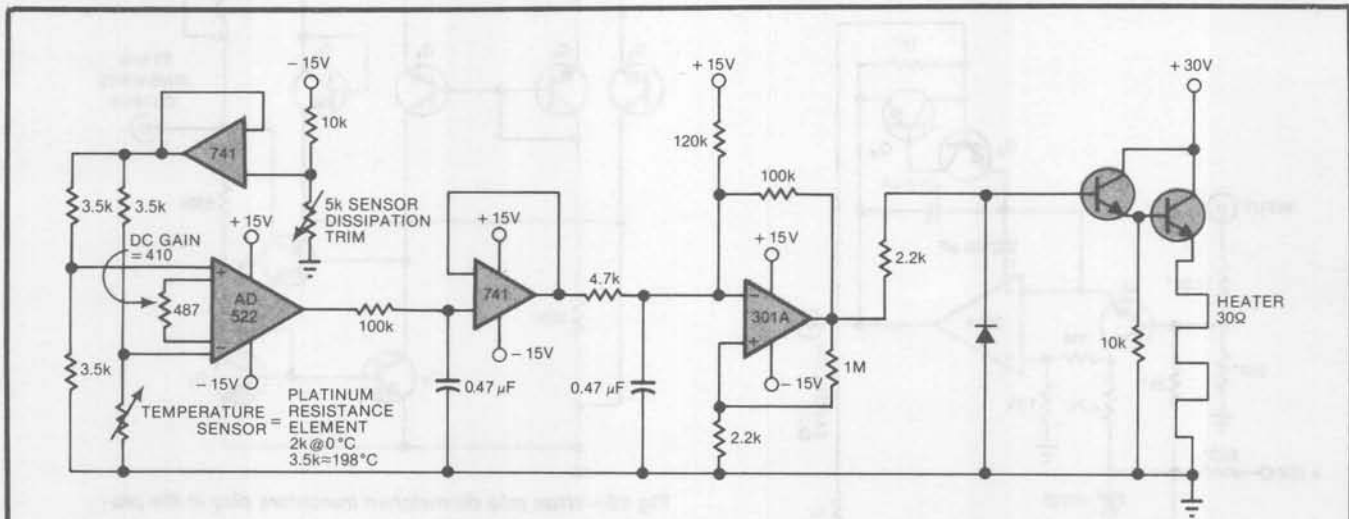

Fig 13—What performance could you expect from this temperature-control circuit?
18. Fig 13 shows a high-efficiency, precision temperature-control circuit designed to maintain a small oven at 198°C. Any comments?